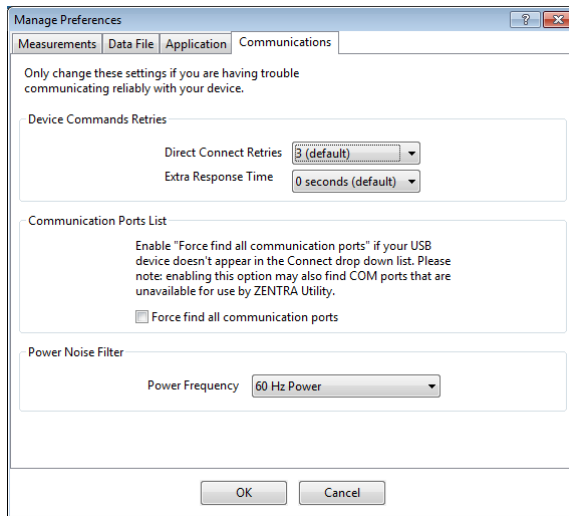

Figure 29 Communications tab
- Communications Tab (Figure 29):